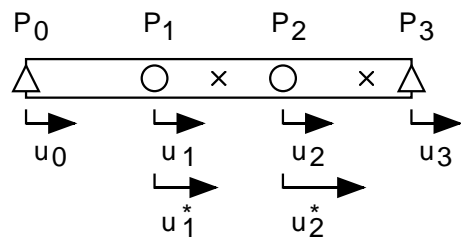

Figure 2: Indirect simultaneous positioning
2. Simulate an indirect simultaneous positioning of an elastic 1D object illustrated in Figure 2. Two points P_1 and P_2 on the object must be guided to their desired location marked as crosses by controlling the position of both end points P_0 and P_3 , as shown in the figure. Assume that the object shows viscoelastic deformation specified by Young's modulus E and viscous modulus c . Let ρ be the density of the object and A be its cross-sectional area. Apply the following the integral law based on the nearest relationship: